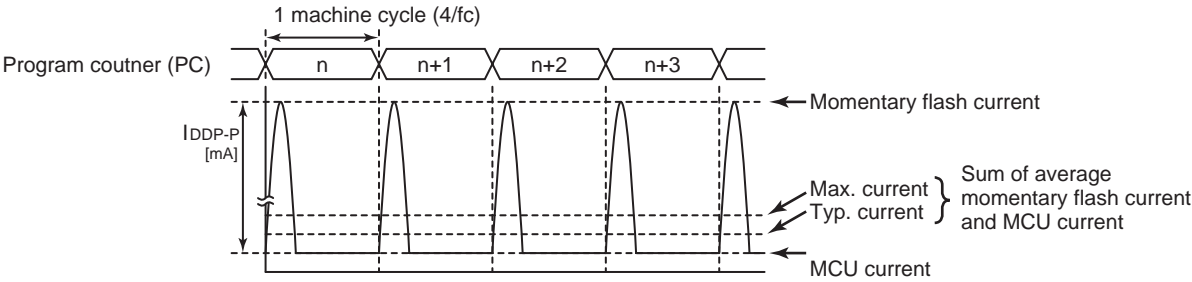

Figure 22-1 Intermittent Operation of Flash Memory
- Note 4: When a program is executing in the flash memory or when data is being read from the flash memory, the flash memory operates in an intermittent manner, causing peak currents in the operation current, as shown in Figure 22-1.